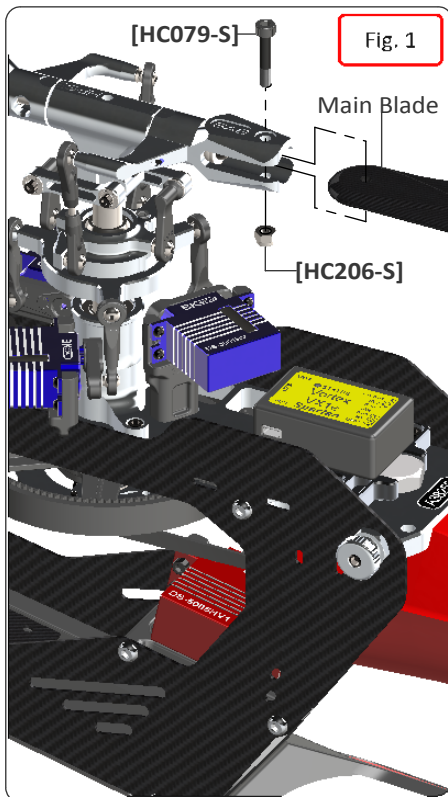

Fig. 1
- *Fit the main blades and tail blades. (Fig.1 and Fig.2)